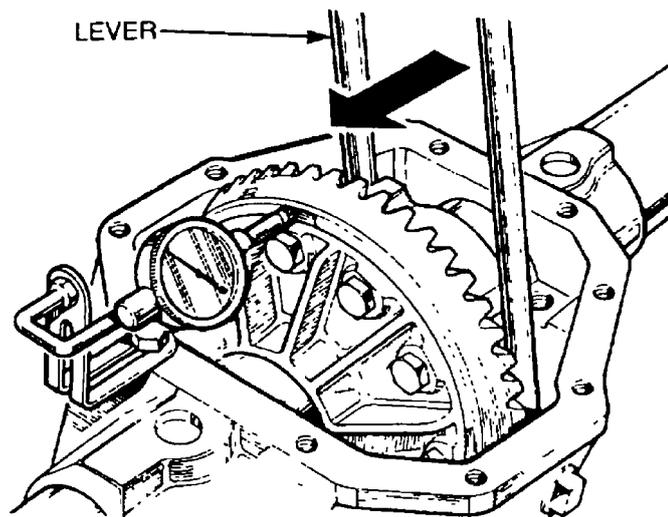

Figure 226 Setting Dial Indicator to Zero
- r. Install the differential in the axle casing and, using two levers, move the assembly away from the pinion gear until the opposite bearing cup is seated against the axle casing (Figure 226). Do not tilt the differential assembly.
- s. Position the dial indicator on the axle casing with the stylus in contact with the back face of the crown wheel and zero the gauge (Figure 226).